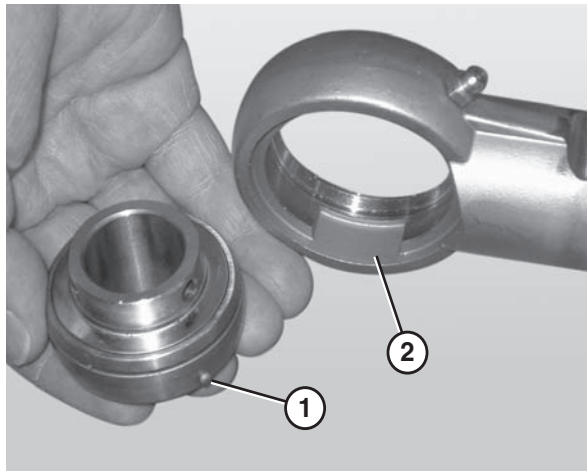

Figure 81
4. Remove the worn or damaged bearing (Figure 81).
When inserting the new bearing, make sure the anti-rotation notch (Figure 81, item 1) on the bearing lines up with the groove inside the housing (Figure 81, item 2).